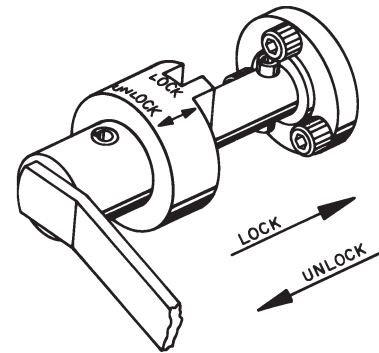

Figure 1
1. Verify the handle locking mechanism on the engine stand is engaged before mounting an engine. Refer to Figure 1.
To ensure engine stability in all positions, this repair stand is equipped with a positive-crank handle locking mechanism. See Figure 1.